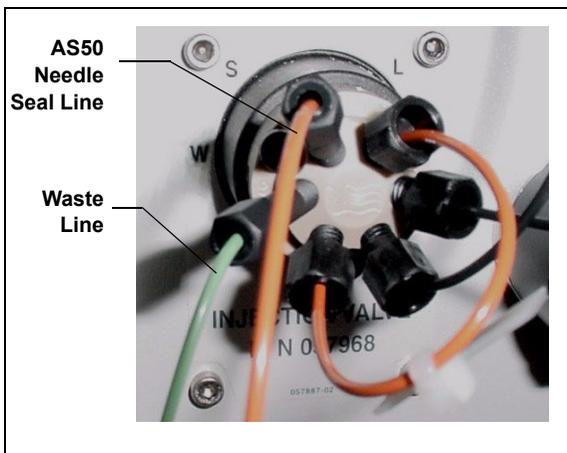
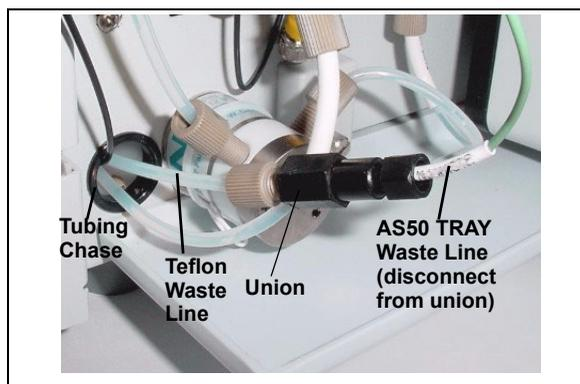

Figure B-60. ICS-2000 Injection Valve
Figure B-61. Injection Valve Waste Line Union
4. Connect the needle seal line from the AS50 to port **S (5)** on the injection valve (see Figure B-60).
The green waste line that is connected to port **W (6)** on the injection valve (see Figure B-60) is connected with a union to a Teflon waste line (see Figure B-61) and routed through the tubing chase to the ICS-2000 rear panel.